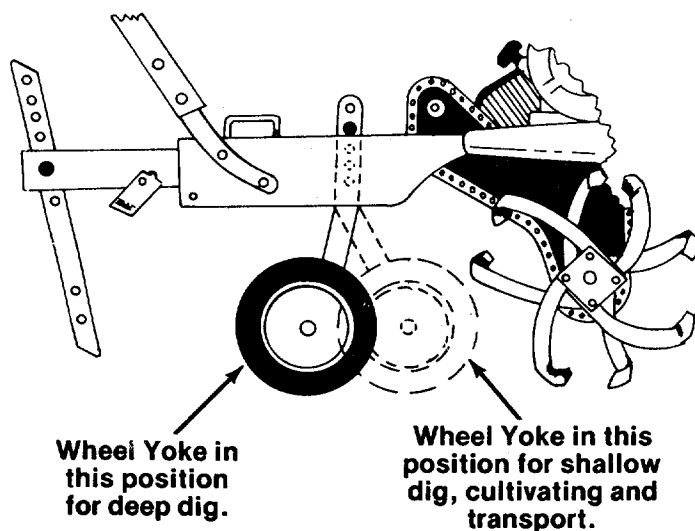

FIGURE 18.
**1. Wheel Yoke Adjustment:** By placing wheel yoke so that the wheels are forward, (nearest point between wheels and tines). See figure 18. This position will allow for shallow tilling, cultivating, transport and also the forward speed will increase. By turning the wheel yoke around (farthest point between wheels and tines) this will allow for deep tilling, and the forward speed will decrease. See figure 18.